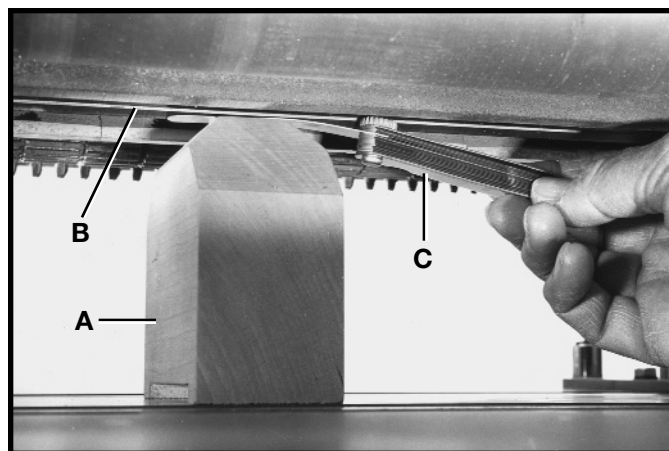

Fig. 43
3. Place gage block (A) Fig. 43, on the table, directly under cutterhead (B). Using a .030" feeler gage (C) placed on top of gage block (A), raise the table until the cutterhead knife just touches feeler gage (A) when the knife is at its lowest point. **NOTE:** Do not move the table any further until the adjustment is complete.